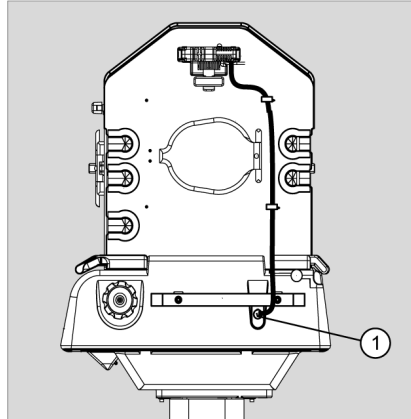

Fig. 63 Side view of Isolette®: sensor module connector
- 4 Disconnect the sensor module cable (Fig. 63/1) from the upper shell assembly.